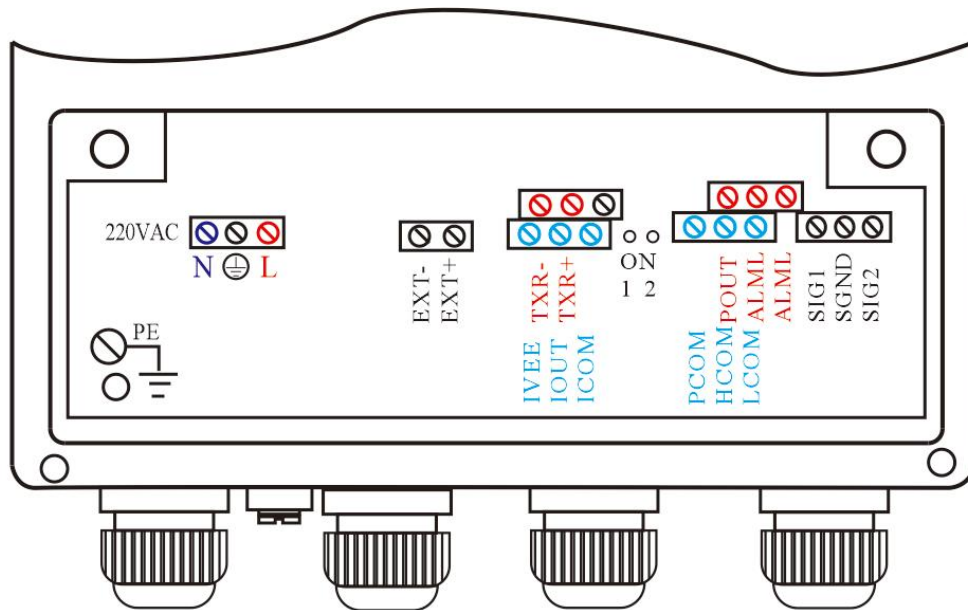
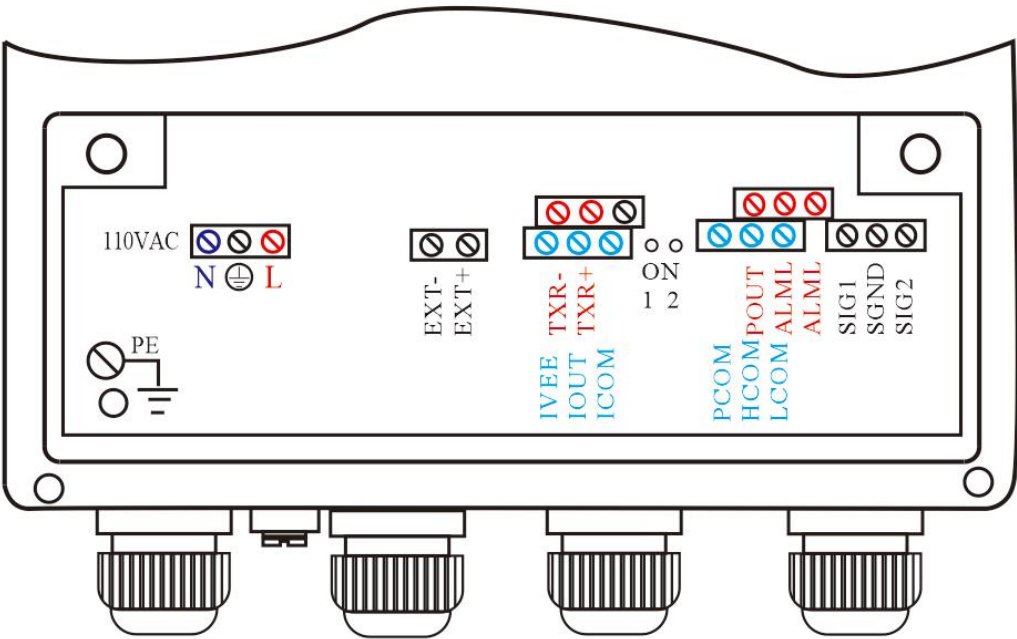
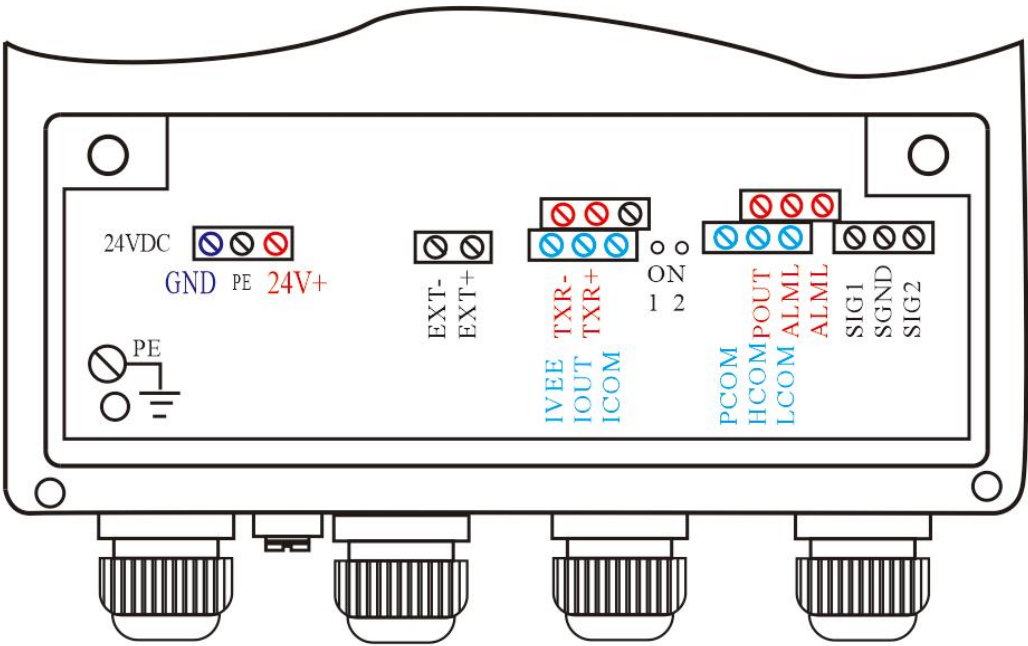
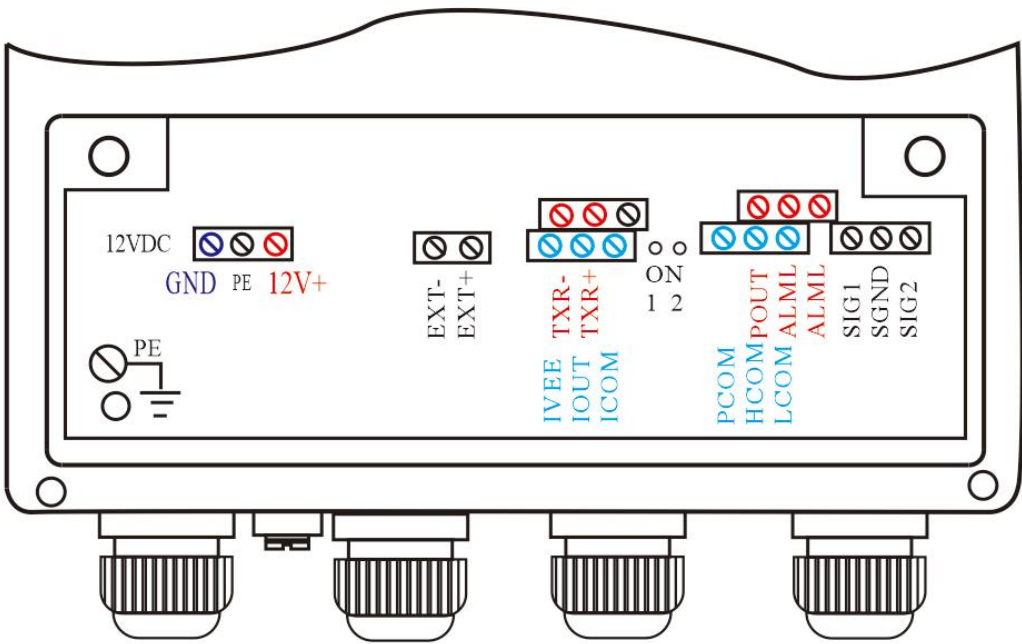

Figure 6: Square meter (220V) terminal block diagram
Figure 6a: Square meter (110V) terminal block diagram
Figure 6b: Square meter (24V) terminal block diagram
Figure 6c: Square meter (12V) terminal block diagram
7.2 Split converter wiring diagram and signal definition(Figure 6, Figure 6a, Figure 6b, Figure 6c)